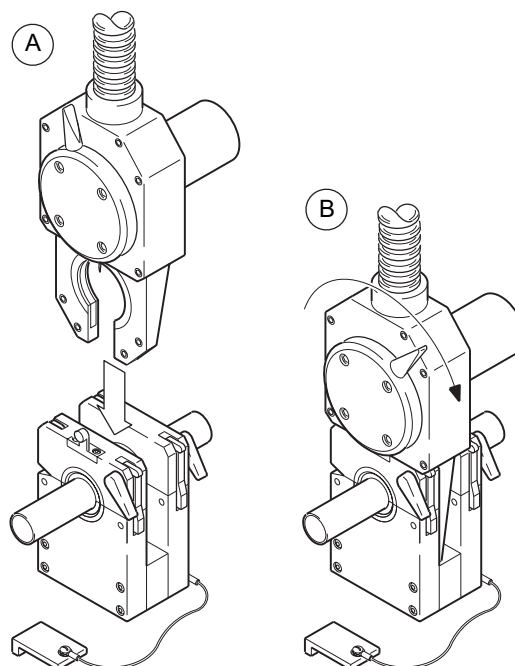

Figure 19 Mating the Weld Head to the Fixture Block
2. Insert the weld head into the fixture block. See Figure 19(A).
3. Rotate the locking lever clockwise to secure the weld head. See Figure 19(B).